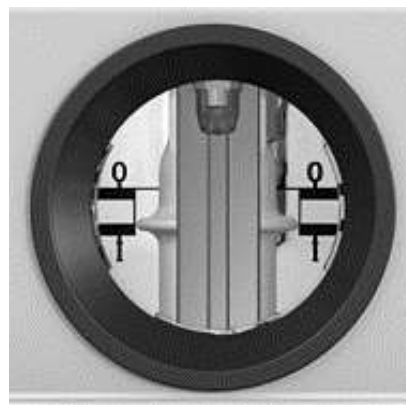

Figure 4-3: Closed operating position
1. Turn the selector (7) clockwise until the control point of the change-over switch (8) is revealed.
2. Place the operating handle with the arrow pointing down in the control point of the change-over switch (8). Switch the change-over switch to the busbar position by turning the handle anti-clockwise as far as it will go, i.e. to approximately 190°. Additional resistance will be noticeable towards the end of this rotation. The handle cannot be removed until busbar position of the change-over switch has been reached.
3. Remove the handle and check that the position indicator (9) of the change-over switch indicates the busbar position.
4. Turn the selector anti-clockwise until the switch control point (5) is revealed.
5. Place the operating handle with the arrow pointing up in the switch control point (5). Switch the cable to busbar by turning the handle clockwise as far as it will go, i.e. to approximately 190° . The mechanism will switch audibly at that point.
6. Remove the handle and check that the position indicator (4) of the switch indicates the ON position. In the viewing window the closed operating position is also visible (see Figure 4-3).
7. Turn the selector (7) back to the central position, both openings (5) and (8) will then be covered.